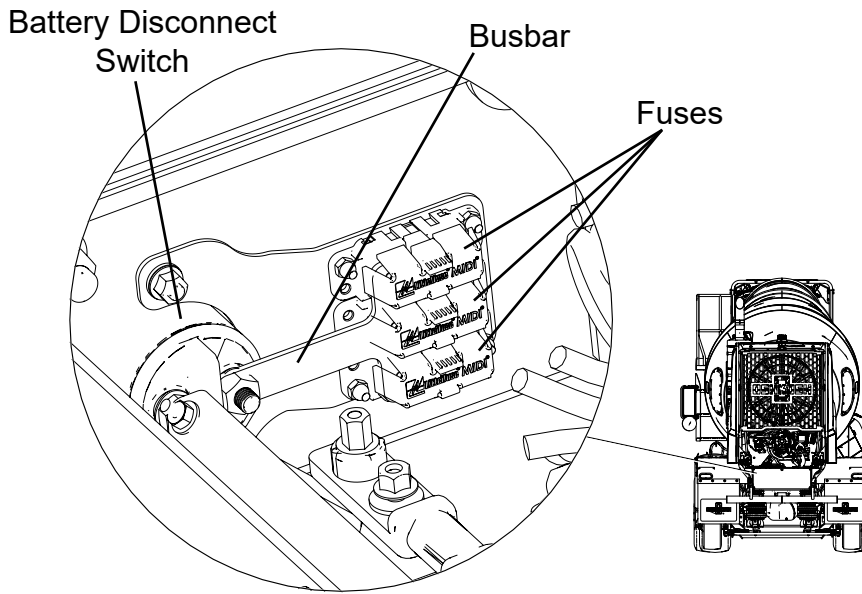

Figure 1 - Battery Box Fuses
3. Locate the three power distribution fuses in the battery box, see Figure 1.